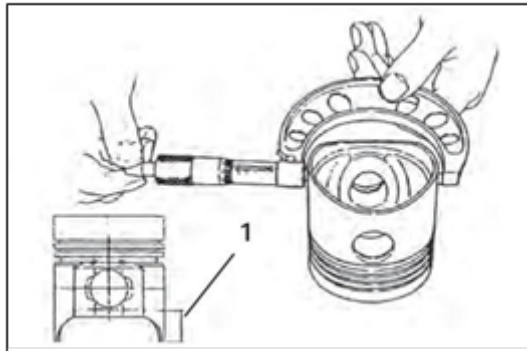

Figure 119.
4. Measure the diameter of the piston skirt at 90° to the wrist pin bore as shown (Figure 119). Measurements must be taken at a specified distance (Figure 119, item 1) from the bottom of the piston. Record measurements. See *Mechanical Specifications Chart*.